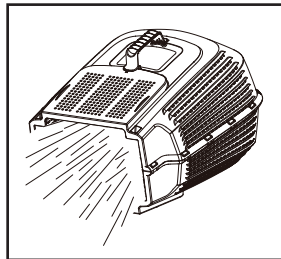

Fig. 10
1. To remove the grass box (14), lift the deflector guard (13) and detach the grass box (Fig. 10).